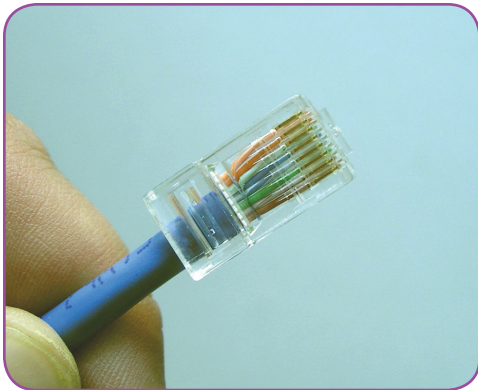

Figure D-9: The Wiring Assembly
8. Make sure all wires reach the end of the RJ45 connector. Rotate the plug for visual inspection (see **Figure D-9**).